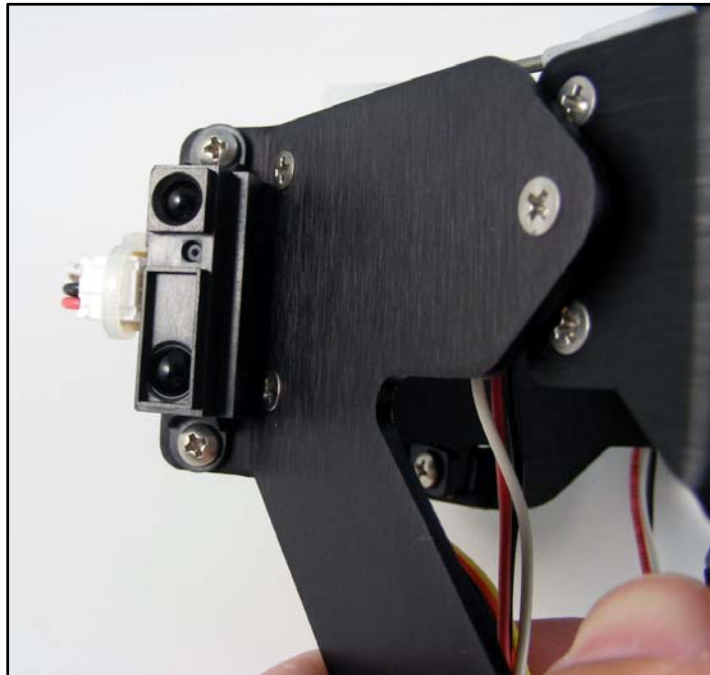

Figure 36
20.) Attach additional Sharp Infrared Sensors to the left and right tabs on the turret pivot as shown in Figure 36 and 37 using two 4-40 x 3/8" Pan Head screws and 4-40 nuts (per sensor).